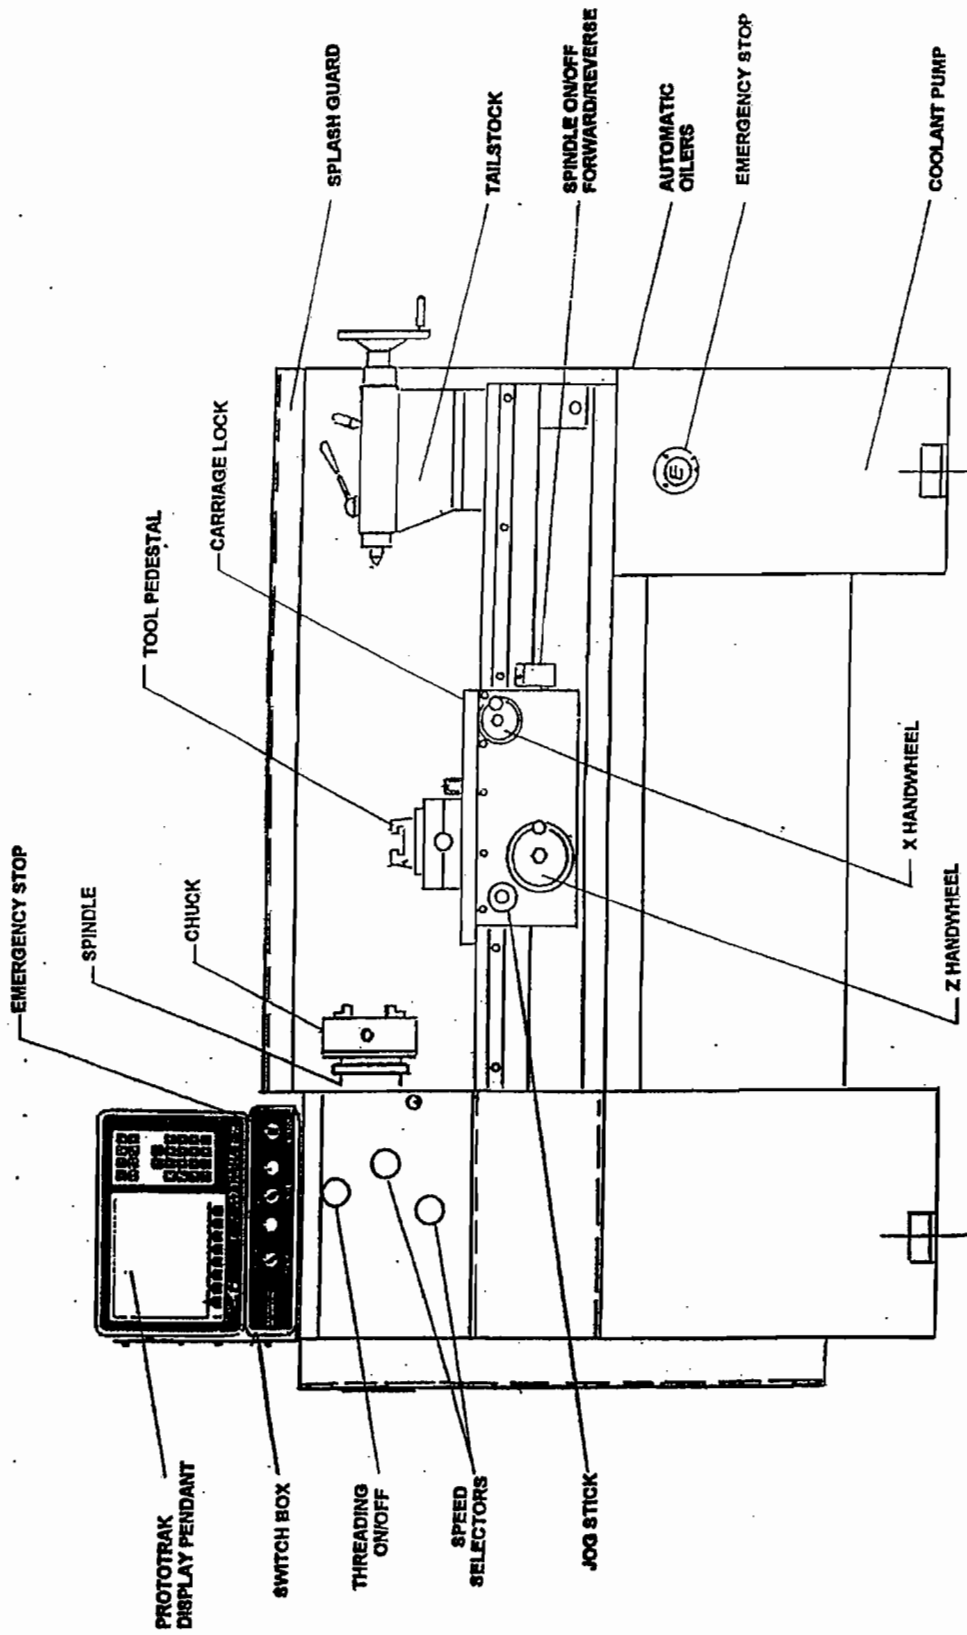

Figure 2
3.4 L2 Pendant Back Panel (Figure 2)
See Figure 2 for a description of the fuses, switches, and connectors on the pendant back panel.